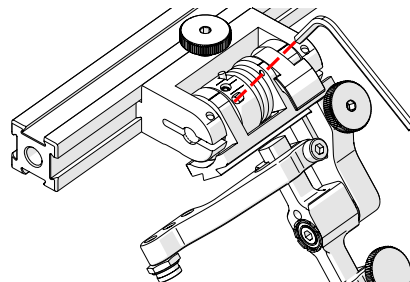

Fig. 74 - Unlatched position
3. Insert the short arm of a 3 mm hex wrench into the 3 mm slot (Fig. 74).